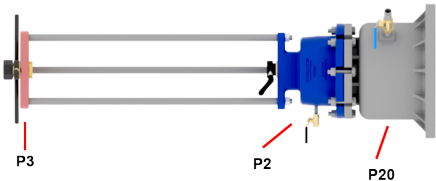

FIGURE 34
2.11.1) For 10"–12" Insta-Valve 250 only, bolt the Hydra-Tapper to the P-20 component using the bolts and nuts included with Hydra-Tapper equipment (see Figure 34).